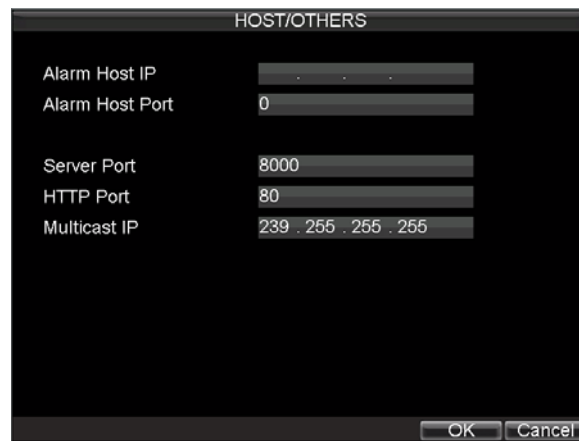

Figure 10. Host/Others Menu
4. Set **Multicast IP**, as shown in Figure 10. When adding a device to the Network Video Surveillance software, the multicast address must be the same with the DVR's multicast IP.